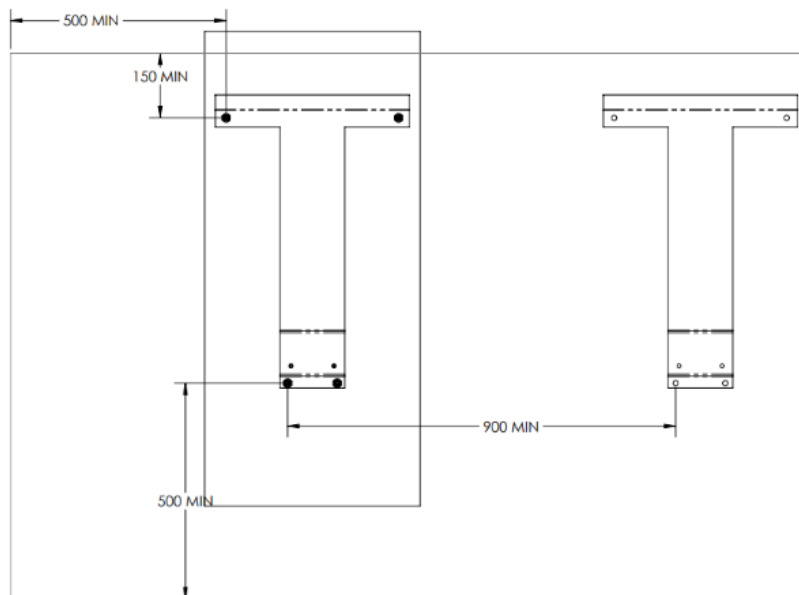

Figure 12 - French Cleat Bracket Mounting Hole Locations
- Mark the four holes onto the bearing surface for attaching the French cleat bracket as shown in Figure 12.